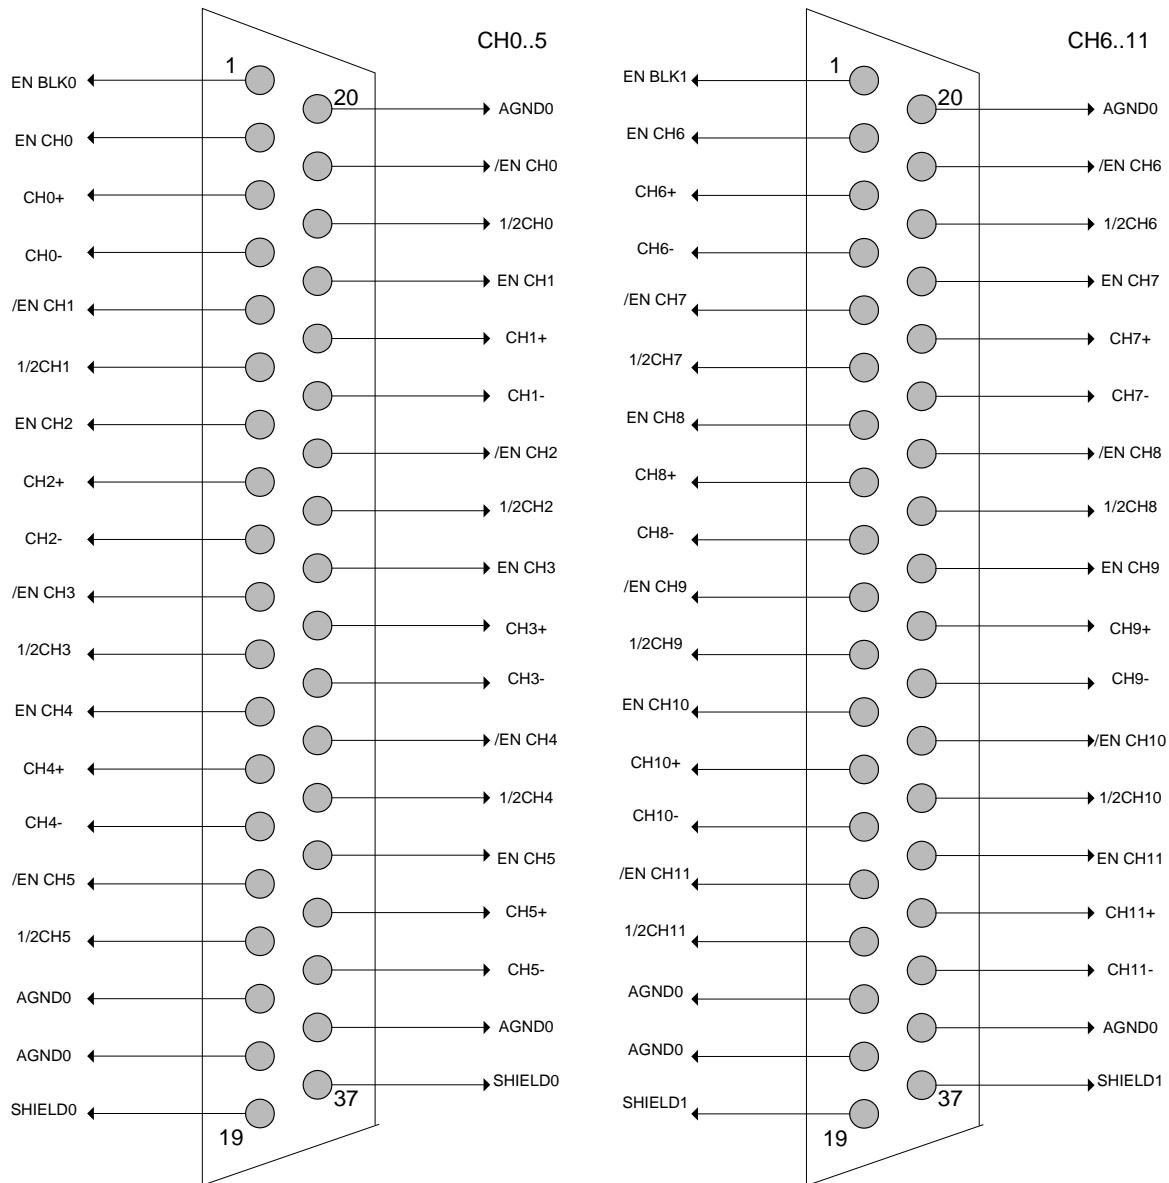

Fig. 3.3 - Mod. A 1511B front panel connectors pin assignment
- *ENMODE0*: if ENCH_x and /ENCH_x front connector pins (see Fig. 3.3) are not connected, x channel is enabled; if ENCH_x and /ENCH_x pins are short circuited, channel x is disabled